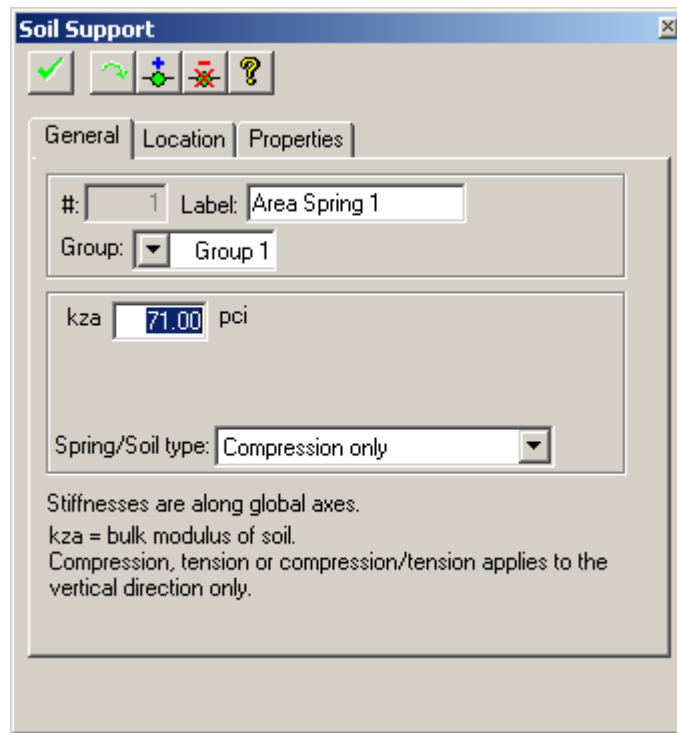

FIGURE 3.2-1 SOIL SUPPORT PROPERTIES BOX
2. Double click on the Area Spring to open its properties box or select the Area Spring and open the properties box by clicking on the *Item's Properties*  button (**Fig. 3.2-1**). Change the following parameters, then click on the  button to accept the changes: